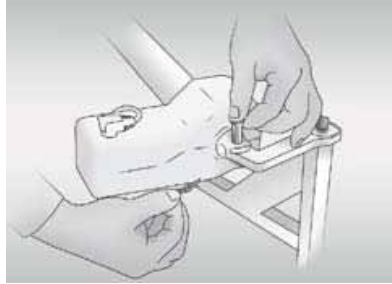

Figure 2.
- Turn the motor 90 degrees and mount the L-shaped motor mount in the engine's rear mount. Use the enclosed motor bolt and secure it with the so-called hairpin as shown in **Figure 2**. Assemble and then screw the L-shaped bracket on the backrest 4-edge pin.